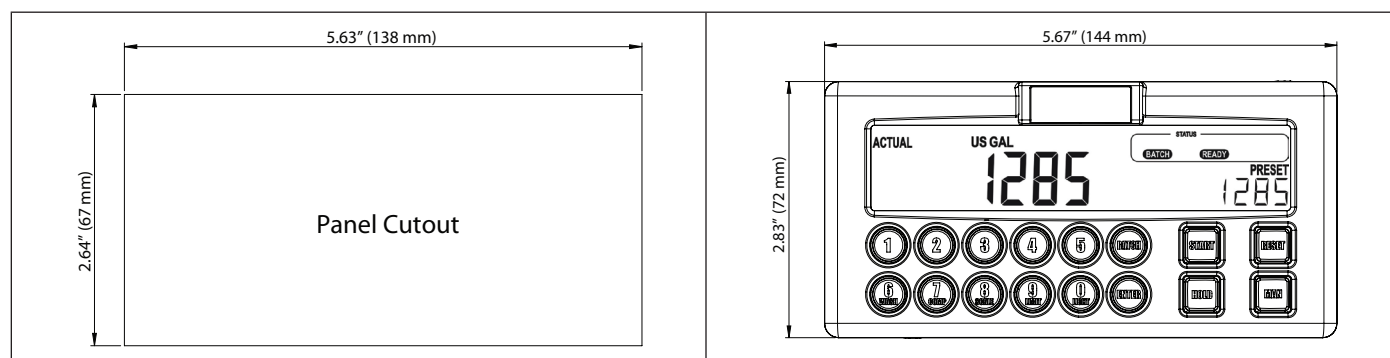

Figure 1: Panel Cutout and Mounting Dimensions
- 1. Measure and cut mounting hole to the dimensions shown in *Figure 1 on page 5*.